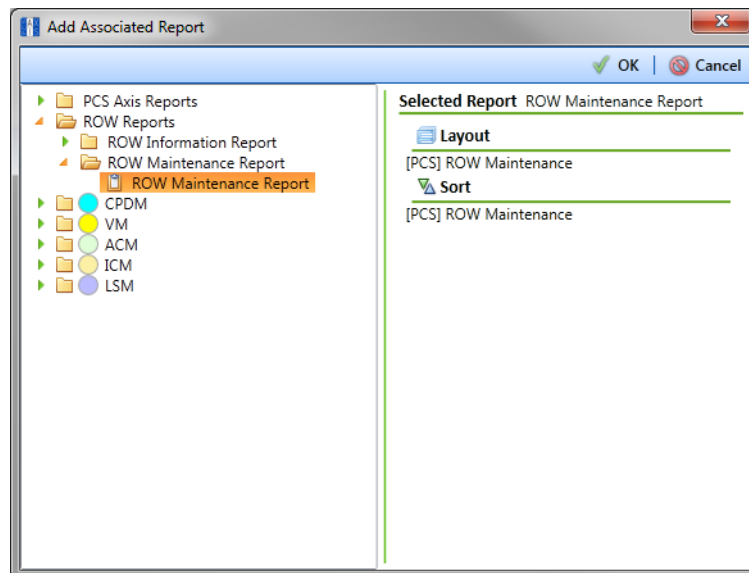

Figure 11-10. Add Associated Report
- c Select a report in the list to move it to the *Selected Report* panel and then click **OK** (Figure 11-10).